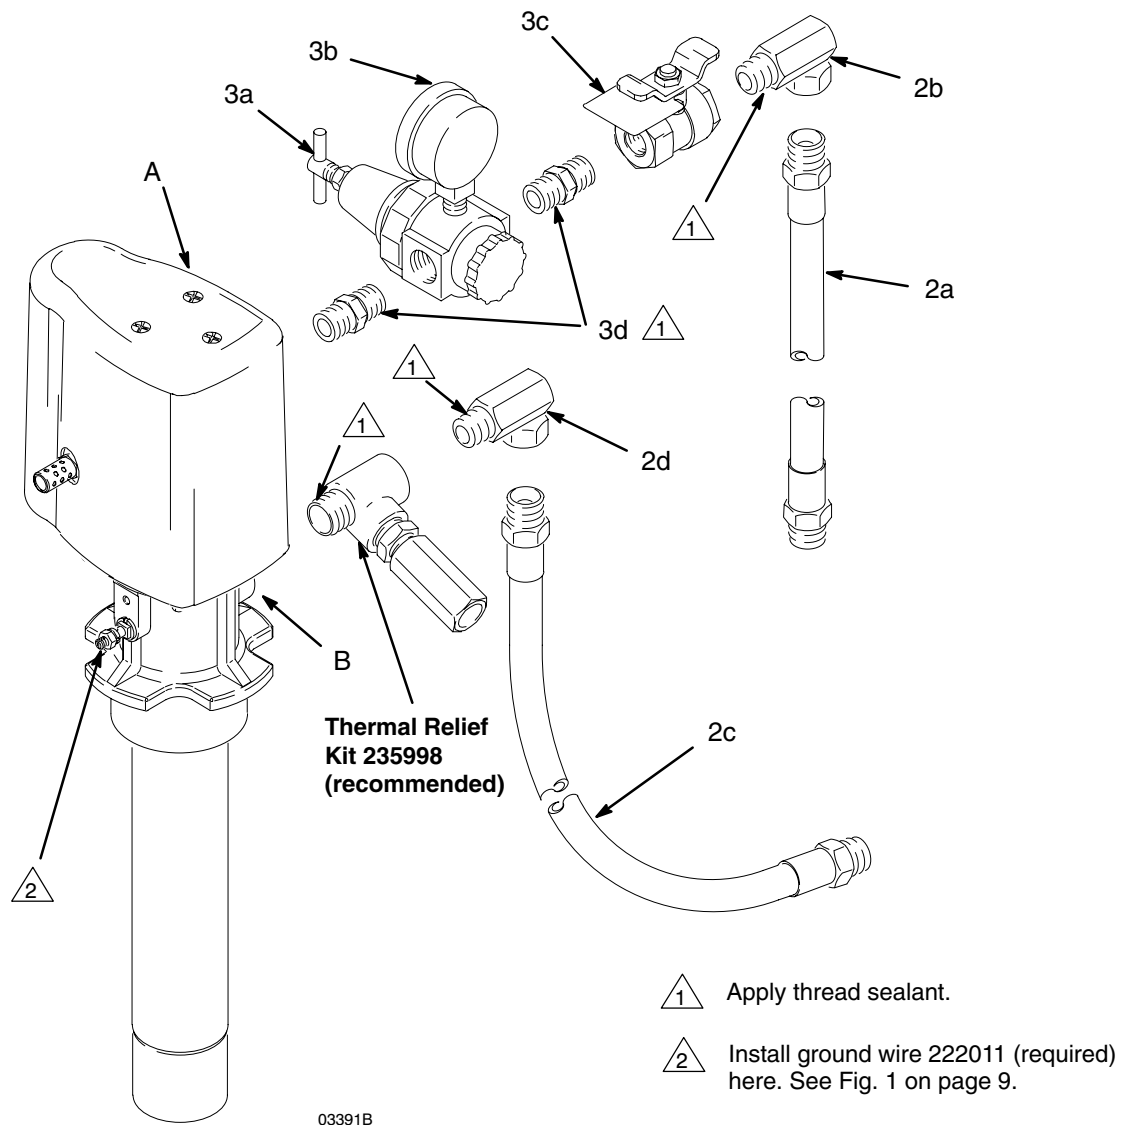

Fig. 2
1. See Fig. 2. Assemble the air regulator kit (items 3a–3d) to the pump air inlet (A), as shown. Use thread sealant and tighten all parts securely.
3. Apply thread sealant to the male threads of the 1/2 npt swivel union (2d). Screw the union into the pump fluid outlet (B).